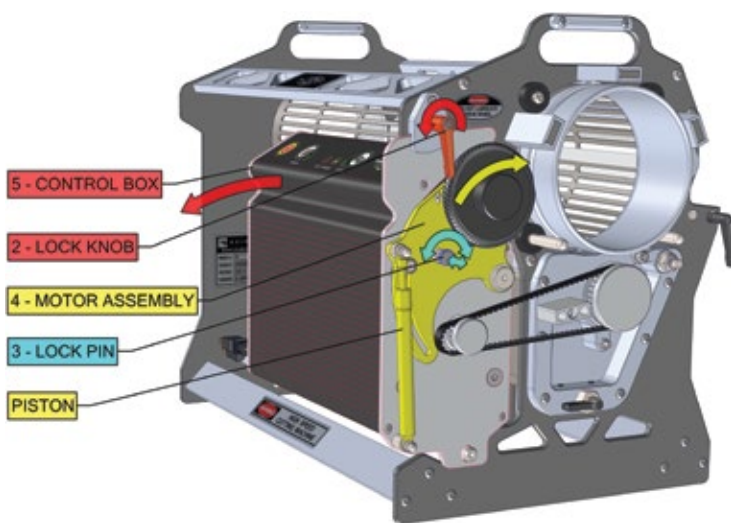

Figure 3: Tilting the control box into position
2. Loosen the lock knob to unclamp the control box (Figure 3).